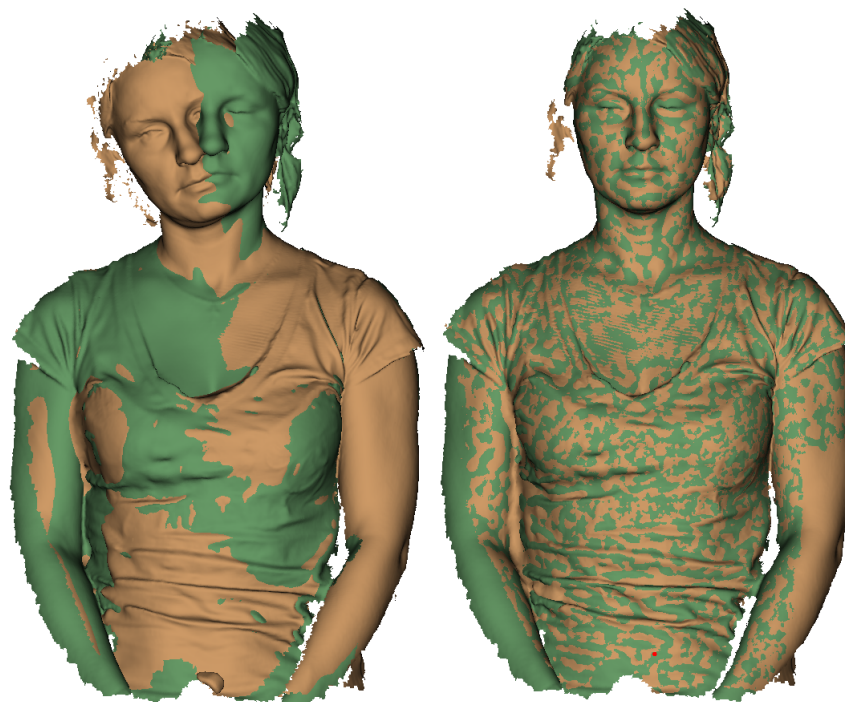

Figure 72: Two models after rigid (left) and nonrigid alignment (right).
Whereas rigid alignment can only perform such transformations as translation and rotation, the nonrigid algorithm can deform 3D data. This algorithm is intended to process so-called nonrigid objects: objects whose shapes have changed during the scan (e.g., models of animals or humans—see Figure 72, left). Keep in mind that the surface Artec Studio produces as a result of the deformation may differ from the surface of the actual object.
- Click *Align...* The algorithm will align models by deforming one of the model (see Figure 72, right). If you are dissatisfied with the alignment results, click  and specify additional point pairs, or reposition the current pairs.